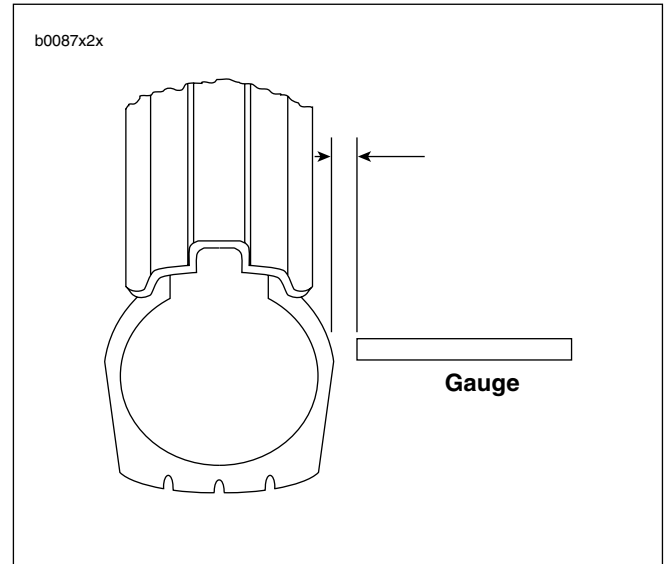

Figure 2-33. Checking Tire Lateral Runout
1. See Figure 2-33. Turn wheel on axle and measure amount of displacement from a fixed point to tire side-wall.